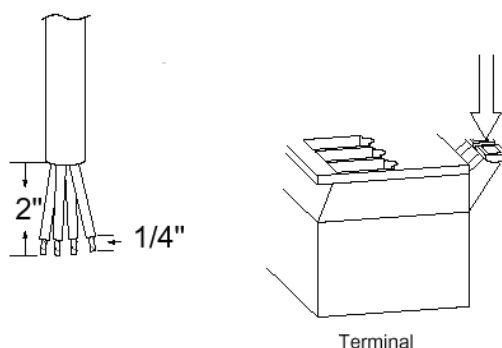

Figure No. 8
4. Remove 2" of the outer insulation jacket then remove 1/4" of insulation from each of the wires (refer to the Figure No. 8).